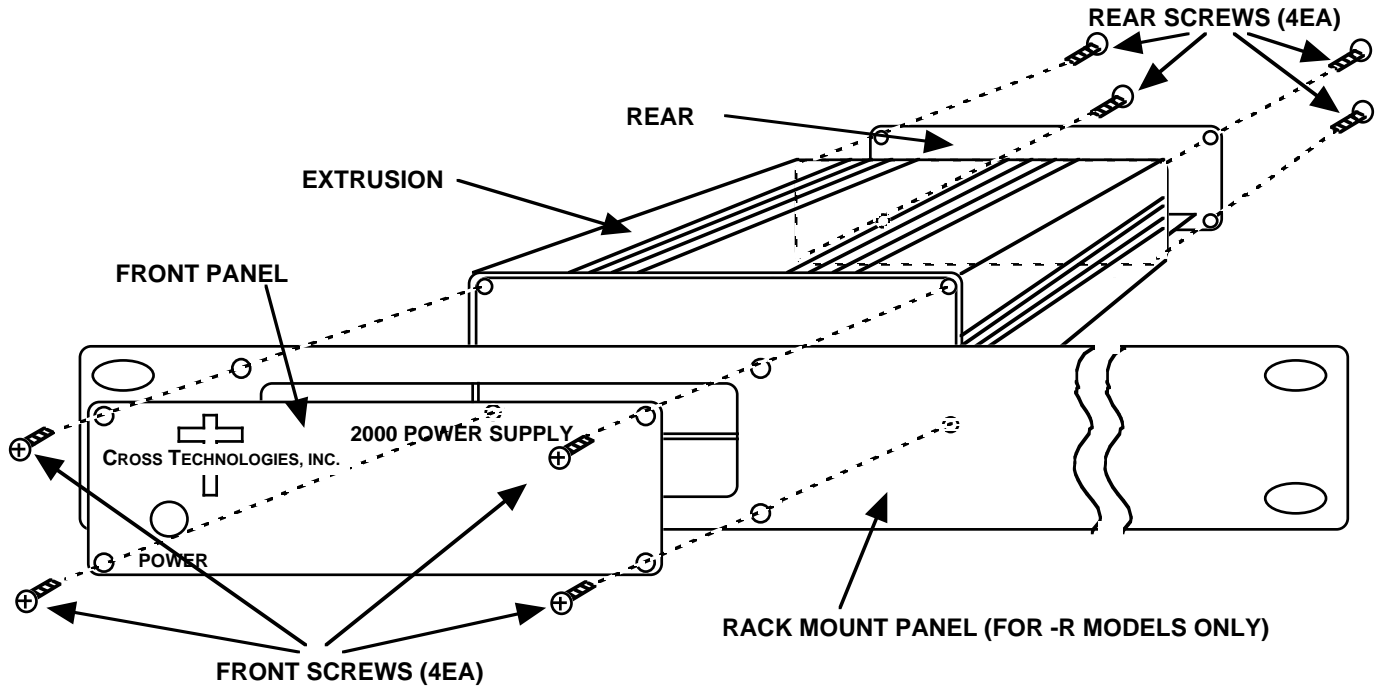

FIGURE 2.1 2000-02 Mechanical Assembly
2.1 Mechanical - The 2000-02 is packaged in an aluminum extrusion. The -R option is mounted on a 1 3/4" X 19" panel that can be mounted to a rack using the 4 holes at the ends. See Figure 2.1.
1. Remove four (4) rear panel screws (see Figure 2.1).